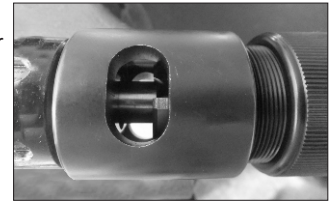

Fig.1-12
12. Rotate the feed nut to push forward the cutter support until the blades just touch the tubing. (Fig.1-12)